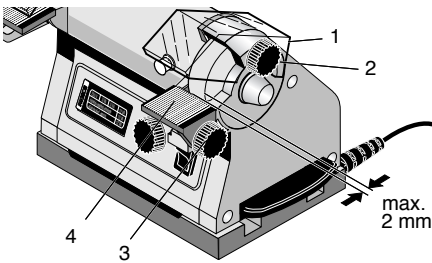

Fig. 3
1. Loosen the locking screw 3 (Fig. 3) for the work piece rest (4) and adjust the grinding angle as desired.
3. Loosen the locking screw 1 (Fig. 3) for the protection hood (2) and adjust it for best possible protection.